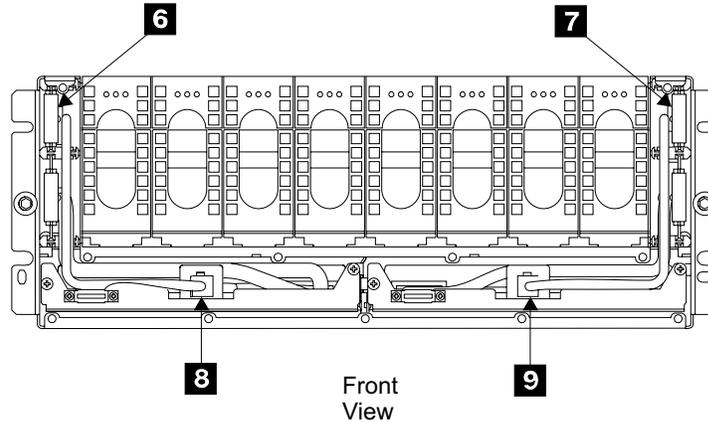

Figure 46. Drawer Back Power Cards Removal (S008401m)
- Back power card, right, not visible (R2-, R3-, R4-Yxx-C5), **7** in Figure 46 on page 38 ,
- Back power card, left, not visible (R2-, R3-, R4-Yxx-C6), **6** in Figure 46 on page 38,